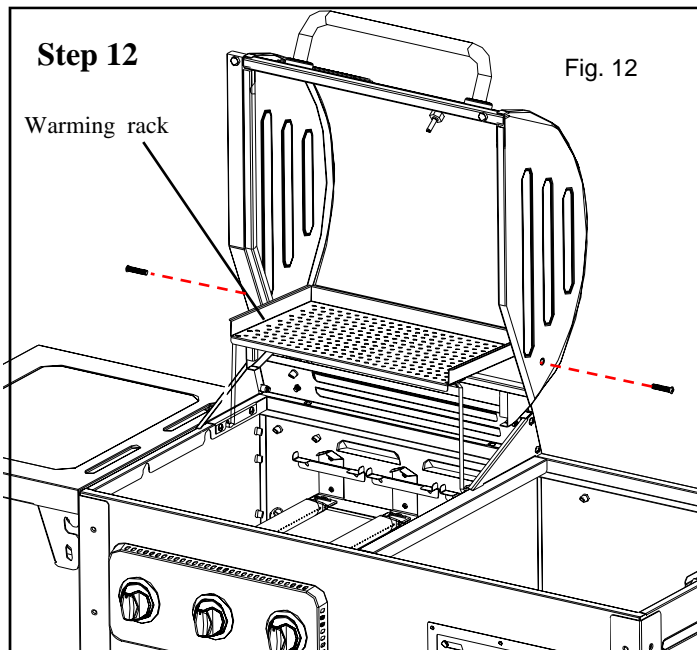

Fig. 12
Refer to Fig. 12, attach the back of the Warming Rack to the gas grill lid with (2) M6*35 Bolts as shown. Insert the Front Wire Legs into the holes on each side of the Grill. Open and close the Lid to be certain the Warming Rack moves smoothly.